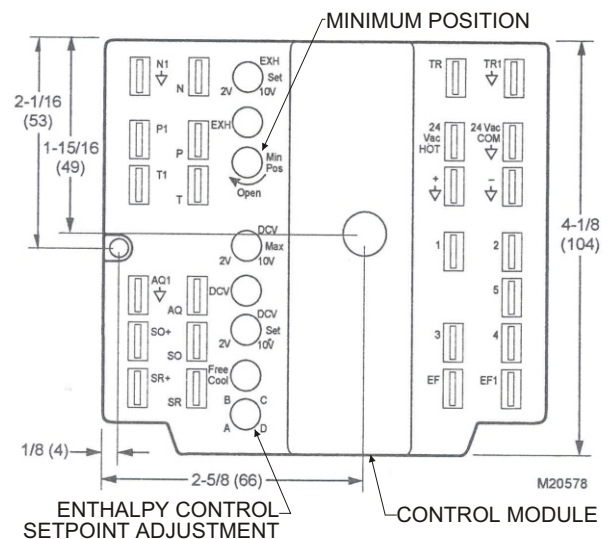

Figure 10
7. Remove T and T1 jumper on damper motor, then restore power to unit. Adjust minimum vent position on potentiometer on damper motor. See Figure 10.